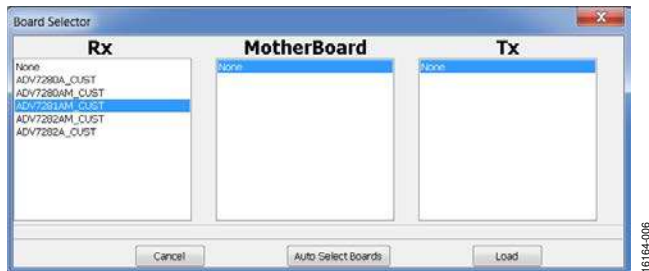

Figure 6. **Board Selector** Window of **DVP Eval Software**
2. Click the **Choose Board** button in the top left corner of the **DVP Eval Software** window to open the **Board Selector** window (see Figure 6).